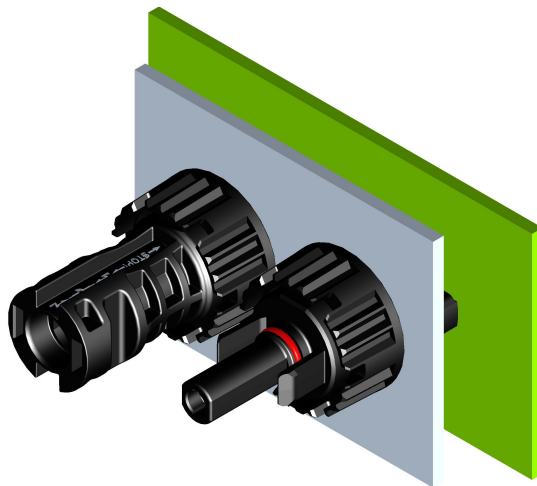

Figure 3
- ✧ 安装公/母面板连接器时，推荐用 2.0 ~ 3.0 N.m 的扭矩锁紧螺母。具体情况，需要由终端用户根据不同的面板验证合适的扭矩 (如图 3)。
When installing the male or female panel connector, it is recommended to lock nut by 2.0 ~ 3.0 N.m torque. The appropriate torque has to be verified in the end use according to the respective housing (Fig.3).